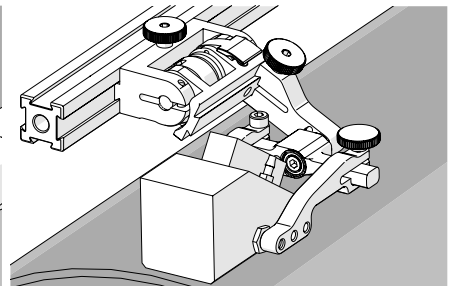

Fig. 86 - Spring loaded scan position
4. Gently lower the probe holder and wedge to the scanning surface (Fig. 86).